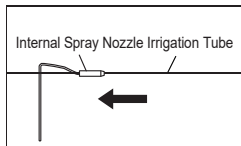

Fig.7
2) Connect the Irrigation Tube to the Internal Spray Nozzle firmly. (Fig.7)